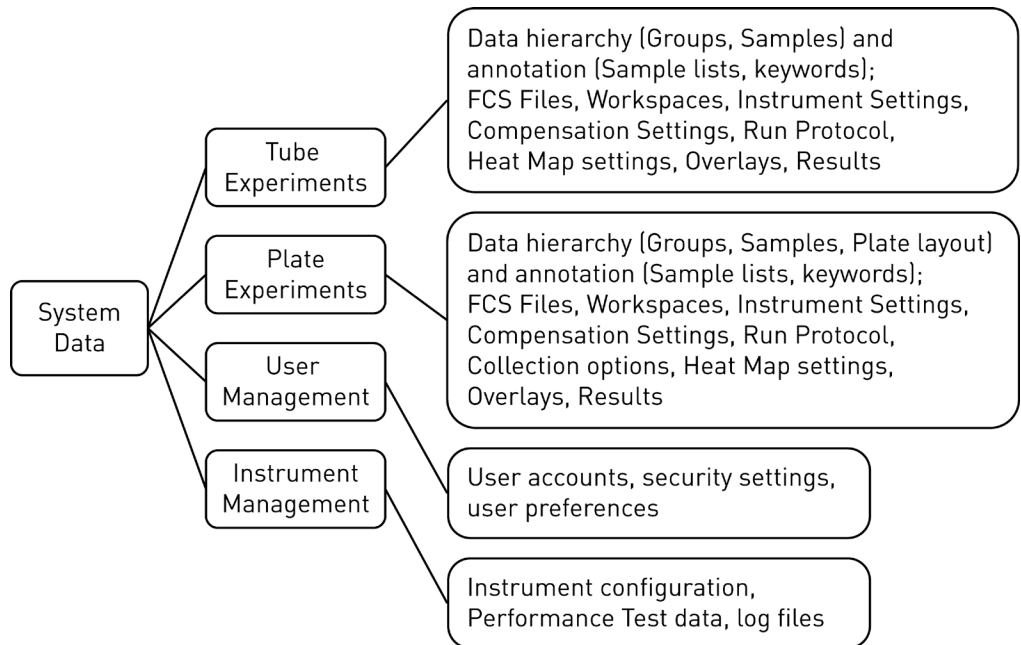

Figure 2. Data within the Attune™ NxT Software
**Types of data in Attune™ NxT Software** There are many types of data associated with the Attune™ NxT Cytometer and software (Figure 2). Users create “data” each time they create a Tube or Plate Experiment and when FCS files are recorded during sample acquisition. Data also refers to other inputs into the software, such as instrument management information that allow the cytometer to collect samples, retain performance data and log information. User management data is retained by the software and provides instructions to manage user accounts, security, and user preferences. Data saved from analysis of results include information stored in the Heat Map, Results table, and Overlay settings.